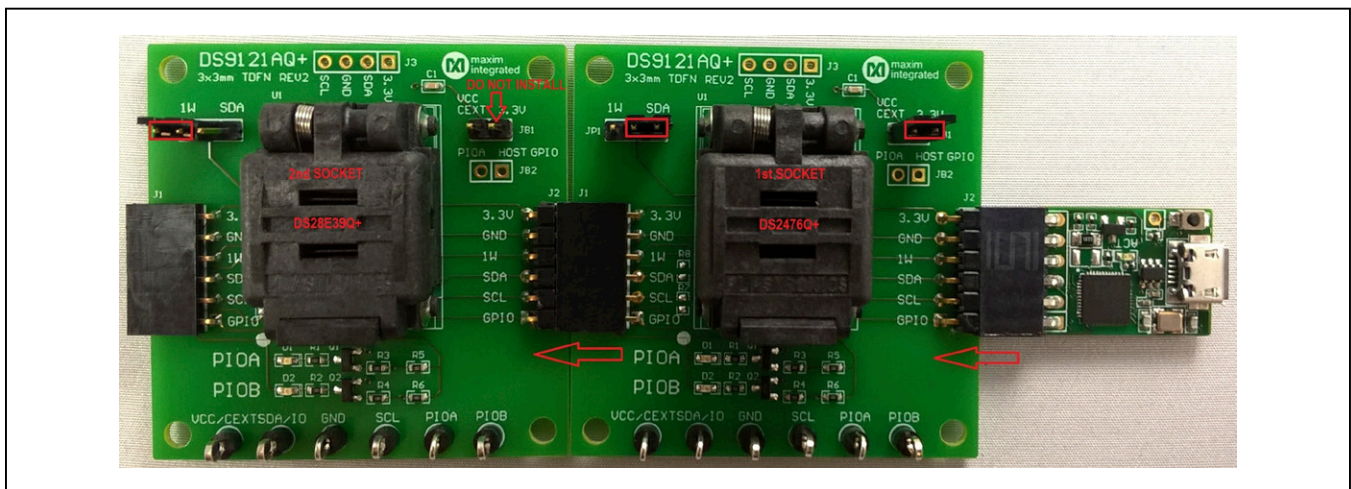

Figure 10. DS9481P-300# and DS9121AQ+
- d) Connect the 1st DS9121AQ J2, 6-pin female socket, into the DS9481P-300#, 6-pin male plug per Figure 10.
- e) Connect the 2nd DS9121AQ J2, 6-pin female socket, into the 1st DS9121AQ J1, 6-pin male plug per Figure 10.
- f) For the 1st DS9121AQ+ socket boards that contains DS2476, configure jumpers JP1 to use SDA and JB1 to use 3.3V per Figure 10.
- g) For the 2nd DS9121AQ+ socket boards that contains DS28E39, configure jumpers JP1 to use 1W and JB1 do not install per Figure 10.